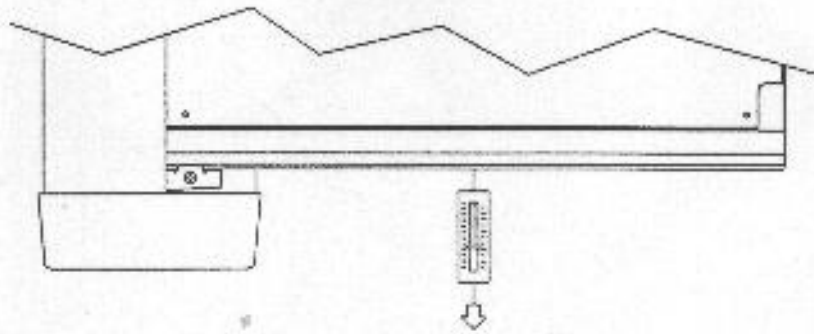

Figure 4: Testing cable tension (above the *right* side of the machine).
2. Slide the table to the front of the machine. On the *left* side of the Appli-K, hook the scale onto the cable approximately 10.0 inches (25.4 cm) from the front corner of the table. Look down over the table edge while slowly pulling the scale. See Figure 4. When the edge of the cable can first be seen the scale force should be between 2.25 and 2.75 lbs (10.2 to 12.5 kg).